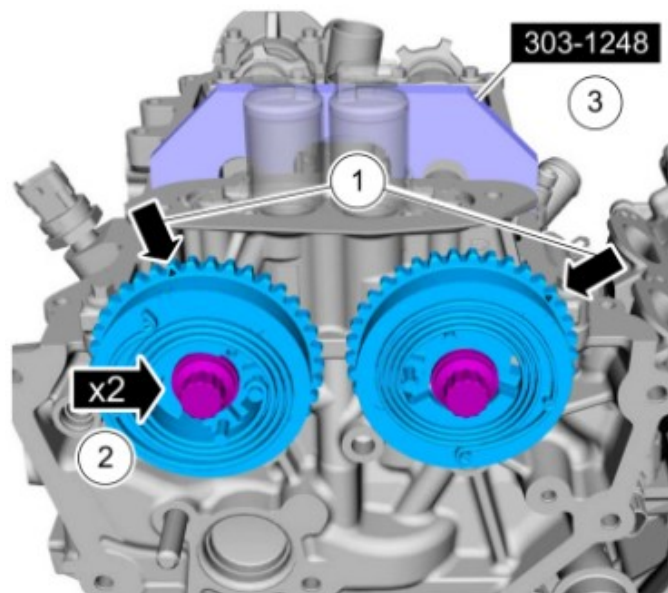

**Figure 2**
- Install new VCT units. The circle timing marks on the VCT units will be at the 2 o'clock (Intake) and 11 o'clock (Exhaust) positions as seen in Figure 2.